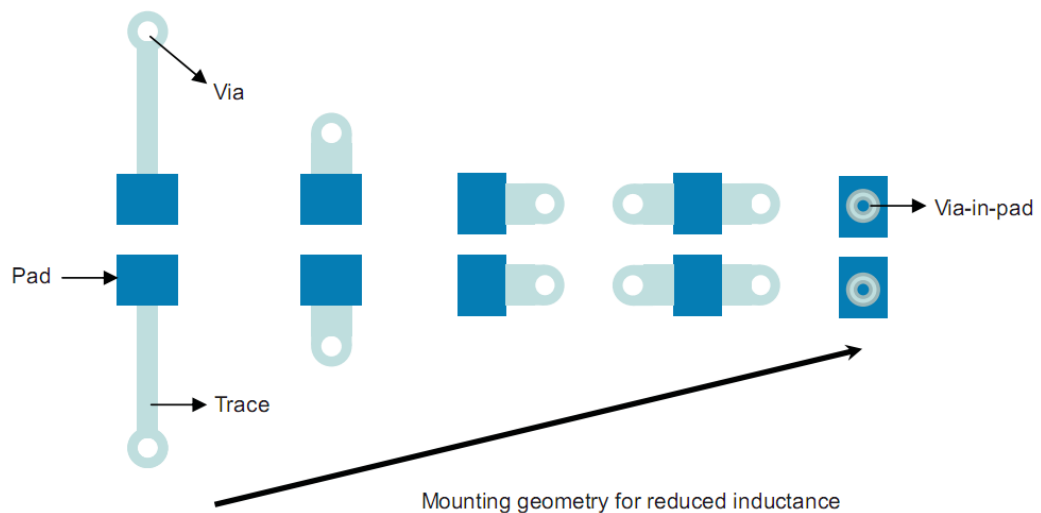

Figure 13
- Locate power-ground vias as close to each other as possible; small loops have lower inductance. As to figure 13.
- Locate vias close to the capacitor terminals; small loops have lower inductance. As to figure 13.